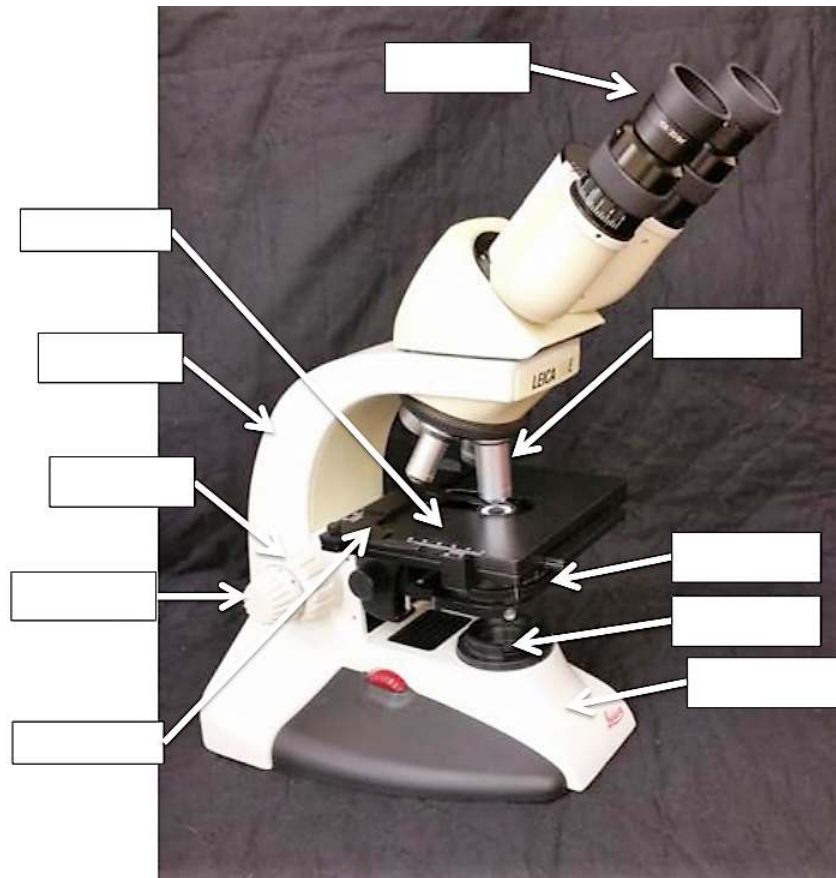

Figure 3.3.1: *Label the microscope diagram*
9. Use the information below to label the parts of the microscope on Figure 3.3.1.